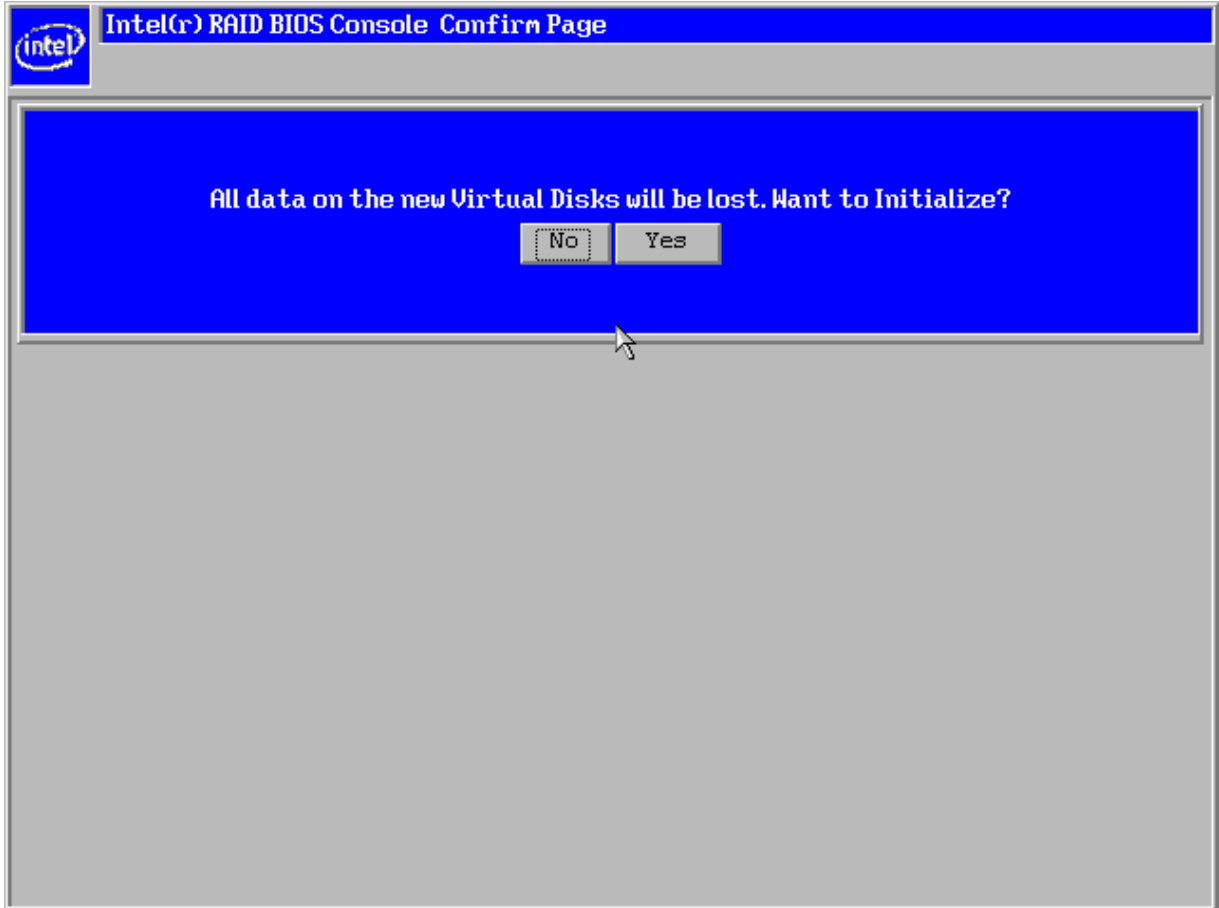

Figure 33. RAID BIOS Console Confirmation Page – Initialization
27. On the next screen (see Figure 33), click **Yes** in the warning dialog that appears to initialize.